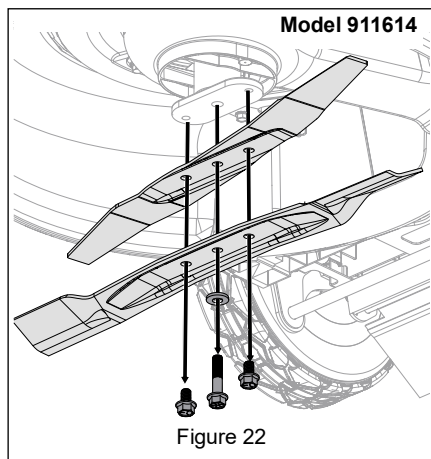
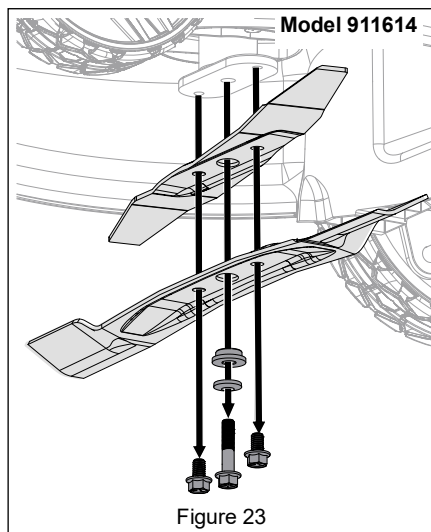

Figure 22
Figure 23
5. Remove and retain hardware securing blades to blade adapter. Remove blades, washer, and if included remove spacer. See Figure 22 and Figure 23.